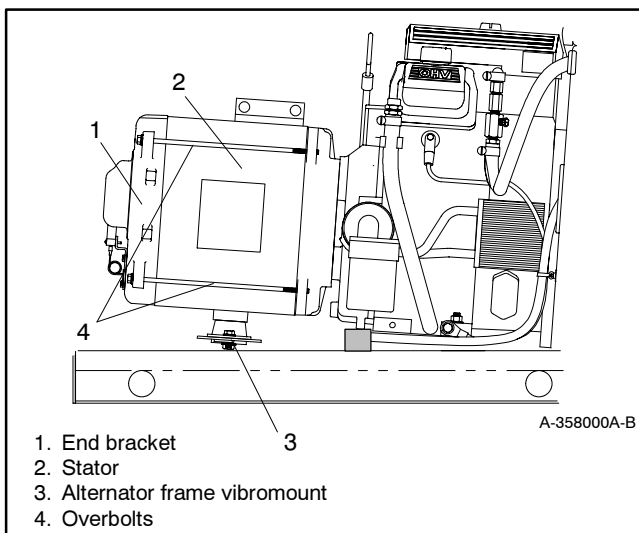

Figure 8-11 Generator Set, Right Side
a. Install the stator assembly around the rotor. Align the stator so that the alternator frame vibromount points down toward the generator skid. See Figure 8-11.